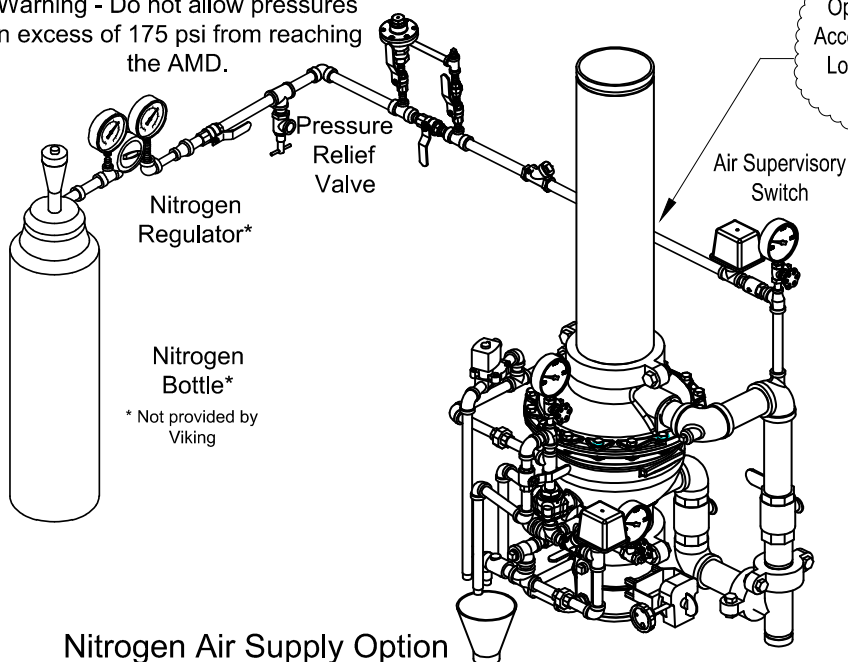

Figure 1 - Air Supply Options
- The Viking Model E-1 Accelerator should be installed at the location indicated in Figure 1 when required. NOTE: The accelerator would only be used for Double Interlock Systems.
2. Nitrogen Cylinder Gas Supply (See Figure 1.)